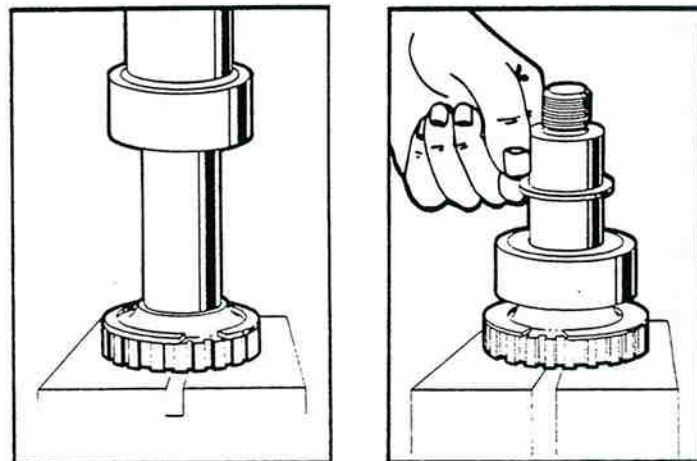

Figure 7-20. Bearing Installation. Figure 7-21. Spacer Placement.
- Position one of the bearings on the shaft. Using a hollow bearing mandrel, figure 7-20, press the bearing onto the shaft until it bottoms. Install the bearing spacer, figure 7-21, and press the second bearing onto the shaft in the same manner.